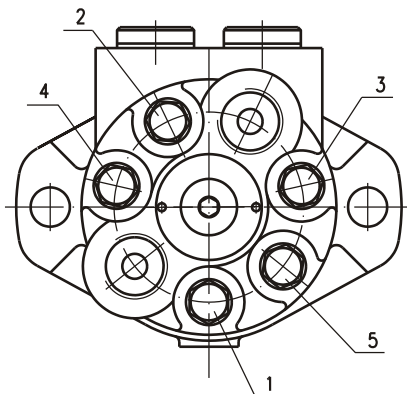

Fig.10A
21. For rear ported motors only: Install washer (O-ring for MLHP...7,8) on plug Tighten plug with S10 Allen wrench with torque 3,0÷3,5 daNm. Make shore that End cover is orientated as shown on Figure 10A!